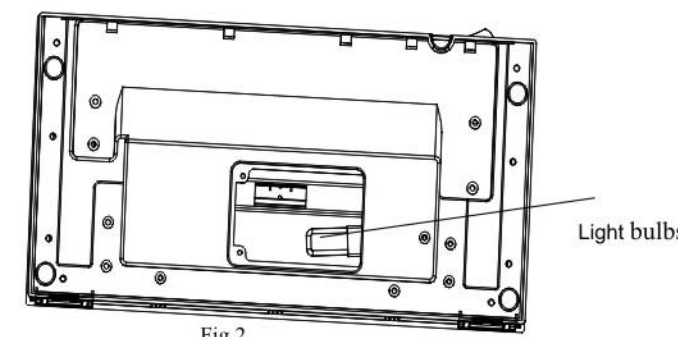

Fig.2
- d. Remove light bulbs and replace with clear 120V / 25W, G9 Socket base light bulbs (see Fig.2).